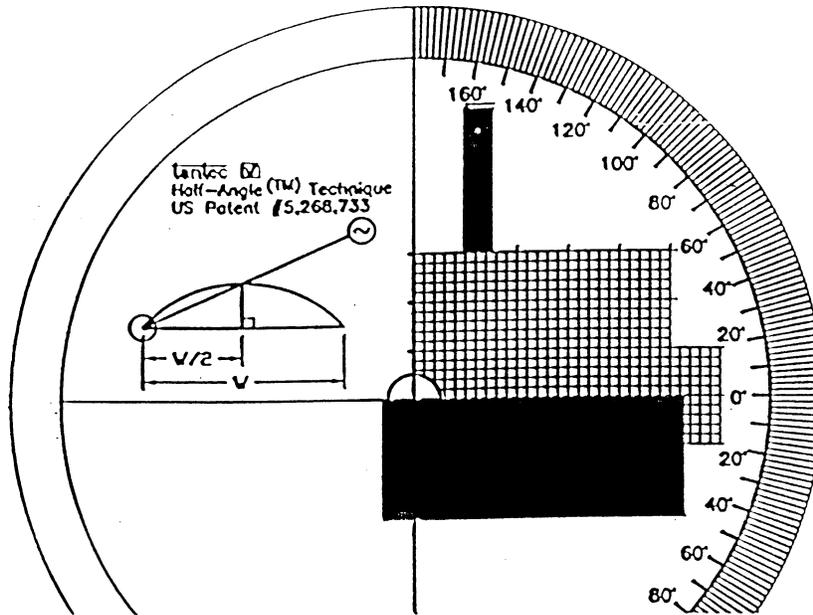

Figure 5
3. Move the sample stage to the “load” position – this is to the far left when looking at the screen (Figure 5).